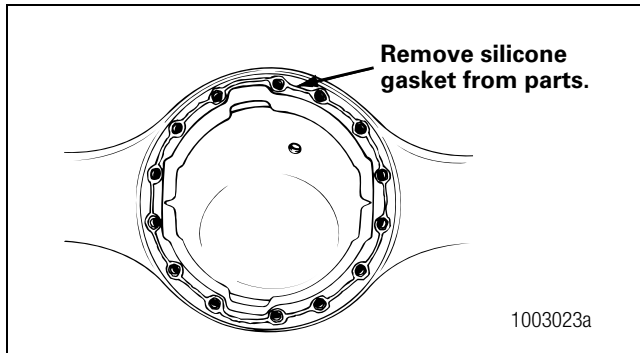

Figure 4.6
4. Clean the parts and apply new silicone gasket material where required when the axle is assembled. Figure 4.6.